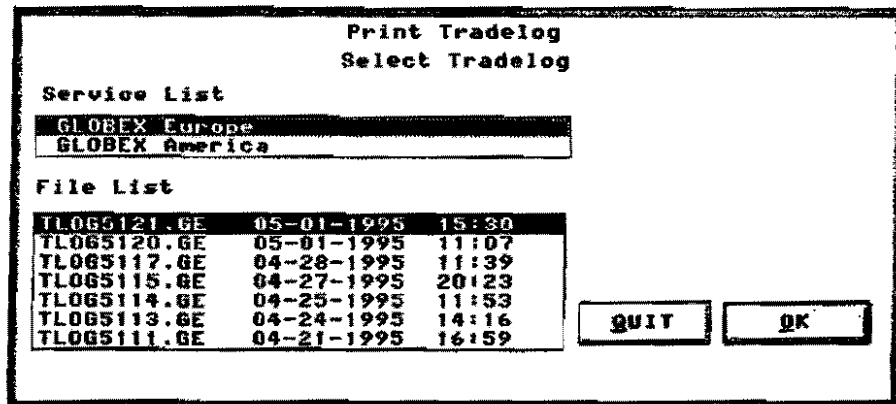

Figure 12.22 Print Tradelog Dialog Box
1. Select **Tradelog** in the Print menu to display the dialog box shown in Figure 12.22. The highest priority Service is selected, as is the most recent of up to seven tradelog files displayed in the list. (Tradelog filenames are explained in Section 12.4.2.).